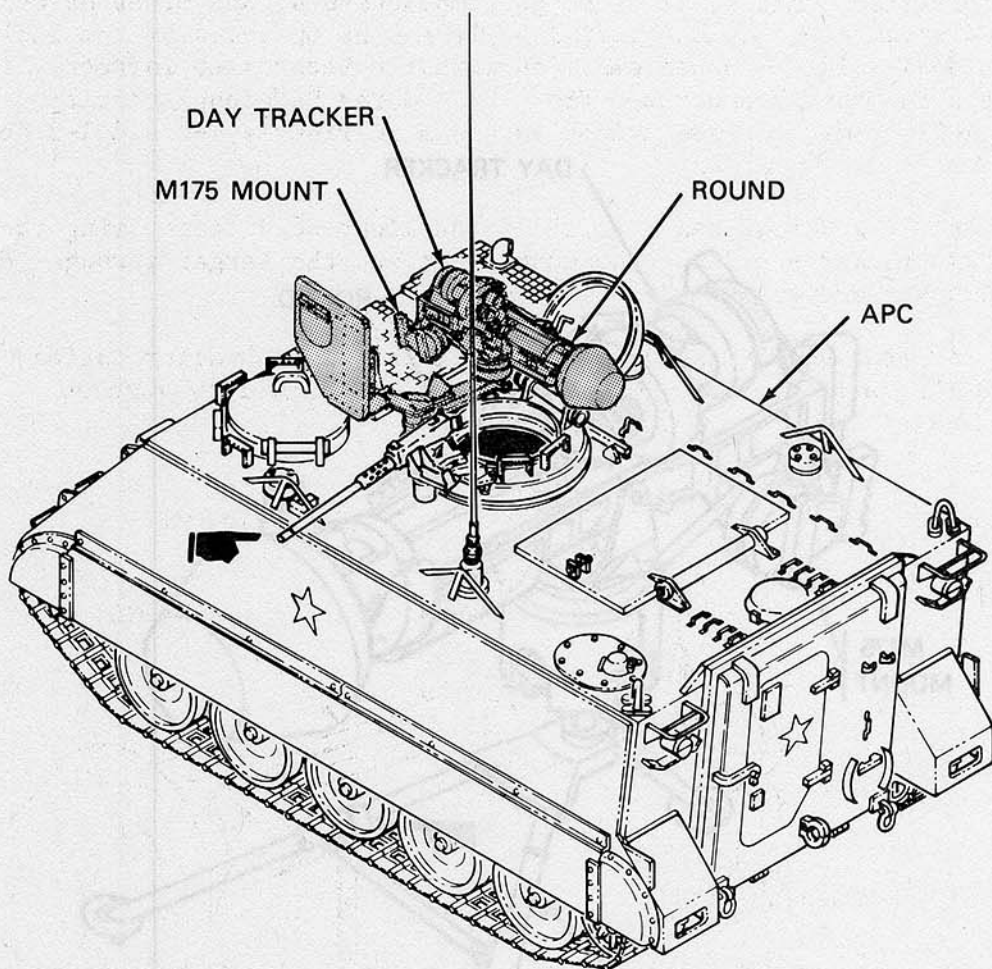

Figure 1-2
a. The DRAGON (figure 1-1) is a light weight recoilless, anti-tank assault weapon. It is capable of defeating enemy armor, fortified bunkers, concrete gun emplacements, and other hardened targets on the battlefield. It can be operated by the individual soldier. When employed with the Mechanized Infantry, it can be mounted and fired from the Armored Personnel Carrier (APC) or machine gun tripod as shown in figures 1-2 and 1-3 below.